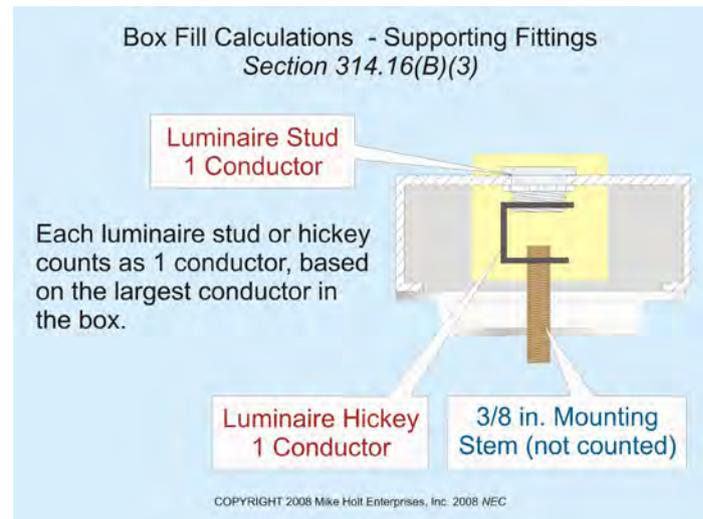

Figure 314-7
(3) Support Fitting Volume. Each luminaire stud or luminaire hickey counts as a single conductor volume in accordance with Table 314.16(B), based on the largest conductor that enters the box. Figure 314-7